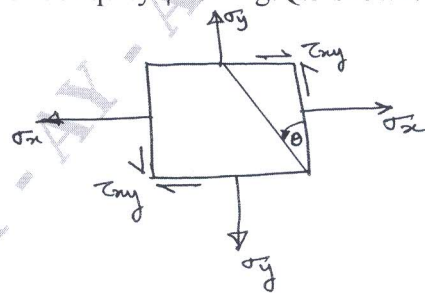

Fig.Q.3
- 3 Derive an expression for normal stress, shear stress and resultant stress on an oblique plane inclined at an angle  $\theta$  with vertical axis (X-plane) in a biaxial stress system, subjected to  $\sigma_x$ ,  $\sigma_y$  and  $\tau_{xy}$  also find angle of obliquity  $\phi$  for Fig.Q.3 shown.